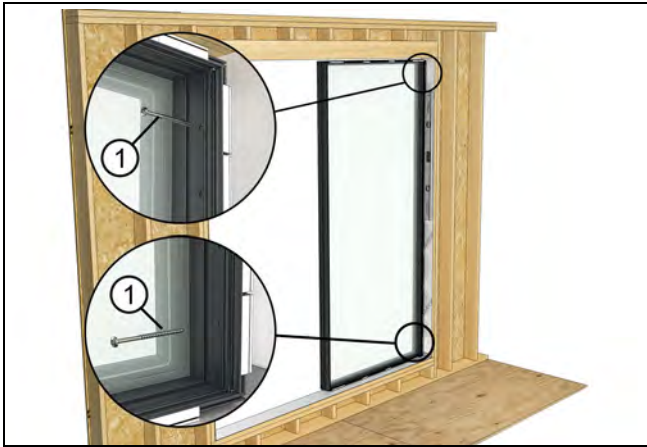

Figure 9
3. Position the first unit in the opening. Shim and plumb the first jamb on the desired vertical plane, then fasten with 3" installation screws. See Figure 9.